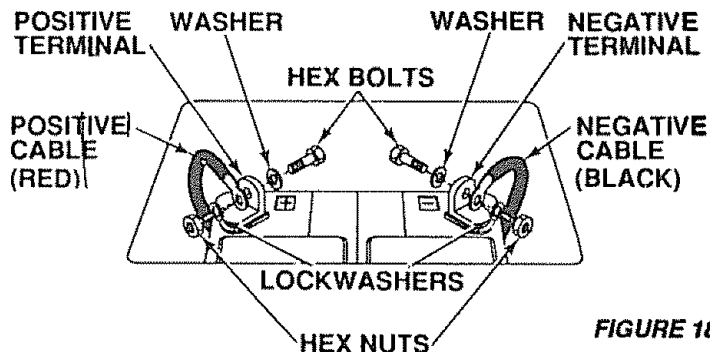

FIGURE 18
- Connect each end of the **RED** jumper cable to the **POSITIVE(+)** terminals of each battery (taking care not to short against chassis). (Fig. 18).